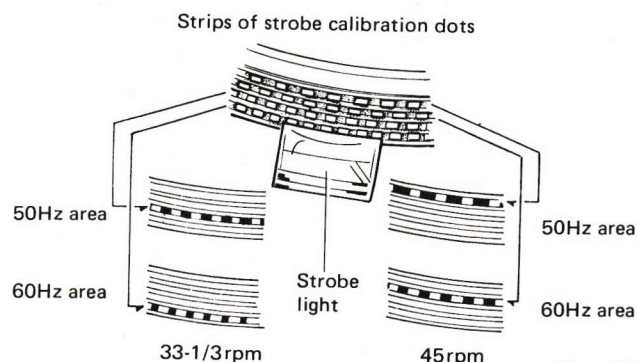

Fig. 11
4. Observe the appropriate strip of strobe calibration dots on the platter edge (Fig. 11).